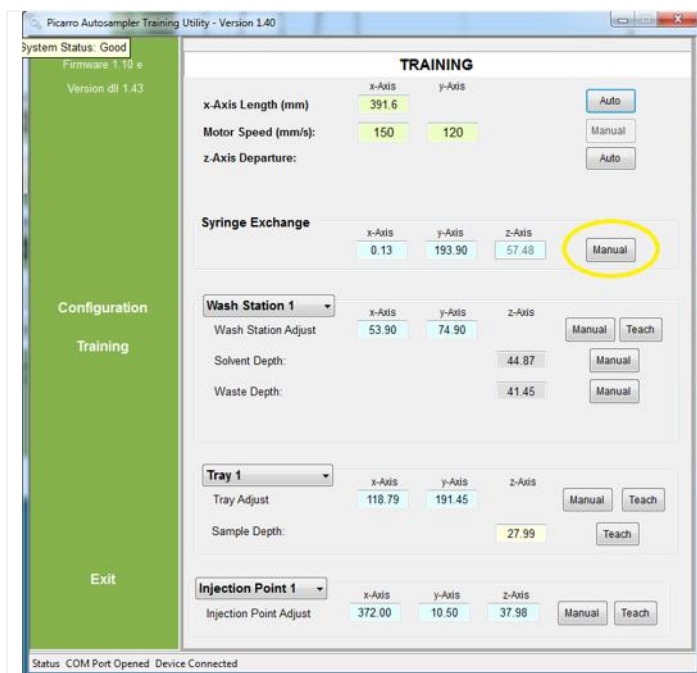

Figure 126. Select the “Manual” button for Syringe Exchange.
STEP 6 | Select the “**Manual**” button for **Syringe Exchange** to manually train the Autosampler to present the Syringe for exchanging (**Figure 126**).